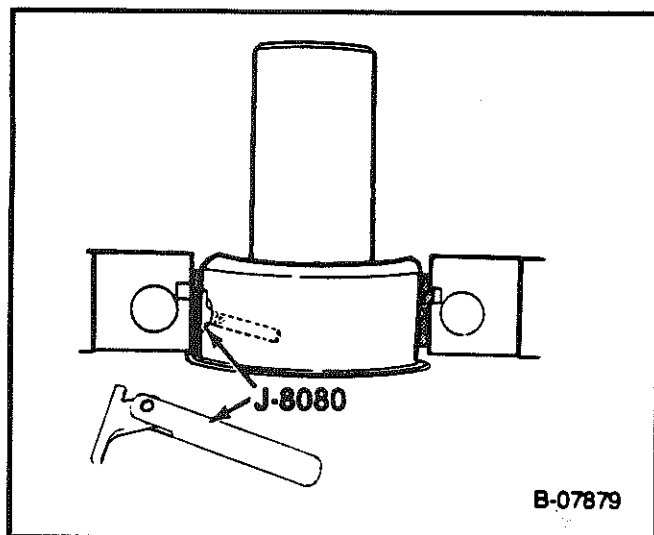

Figure 28 - Removing the Main Bearing Insert
- Insert J 8080 into the crankshaft oil hole (Figure 28).
- Insert J 8080 into a crankshaft main bearing oil hole (Figure 28).